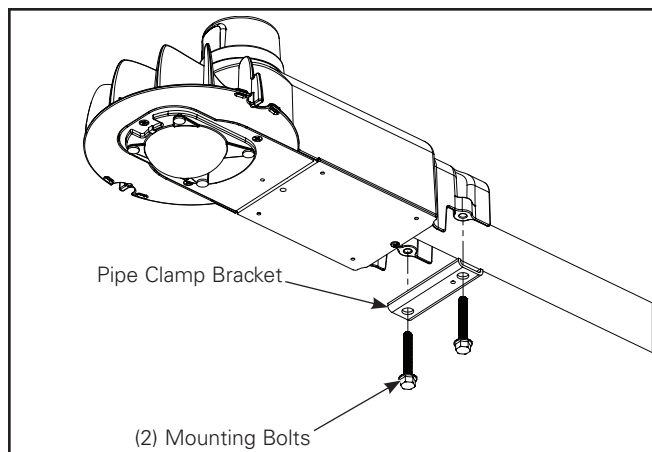

Figure 6.
1. Use a 1/2" socket wrench to loosen pipe clamp from fixture leaving enough space to allow mounting pipe to slide onto desired leveling step. (Figure 6.)